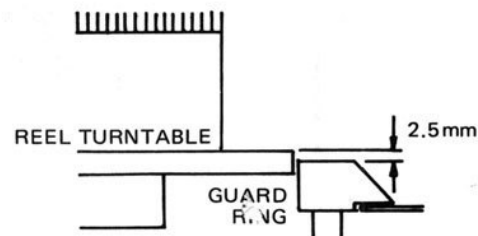

Figure 5-7. Reel turntable height adjustment
5.10 REEL TURNTABLE HEIGHT (Ref. to Fig. 5-7)